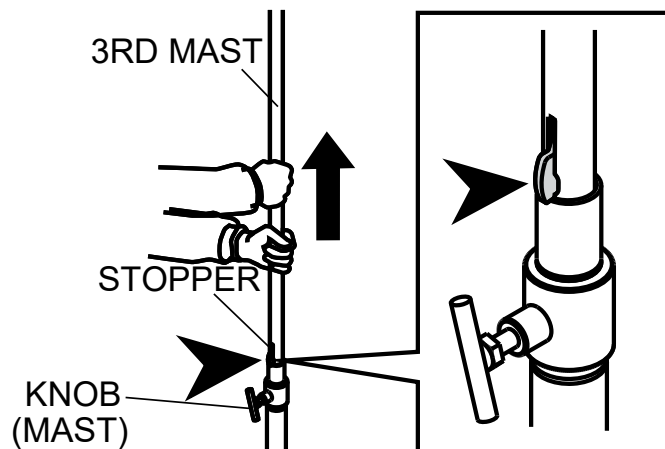

Figure 11. Raising Third Mast
1. Tighten the mast knob (Figure 11).
2. Raise third mast until the stopper locks it in place (Figure 11).